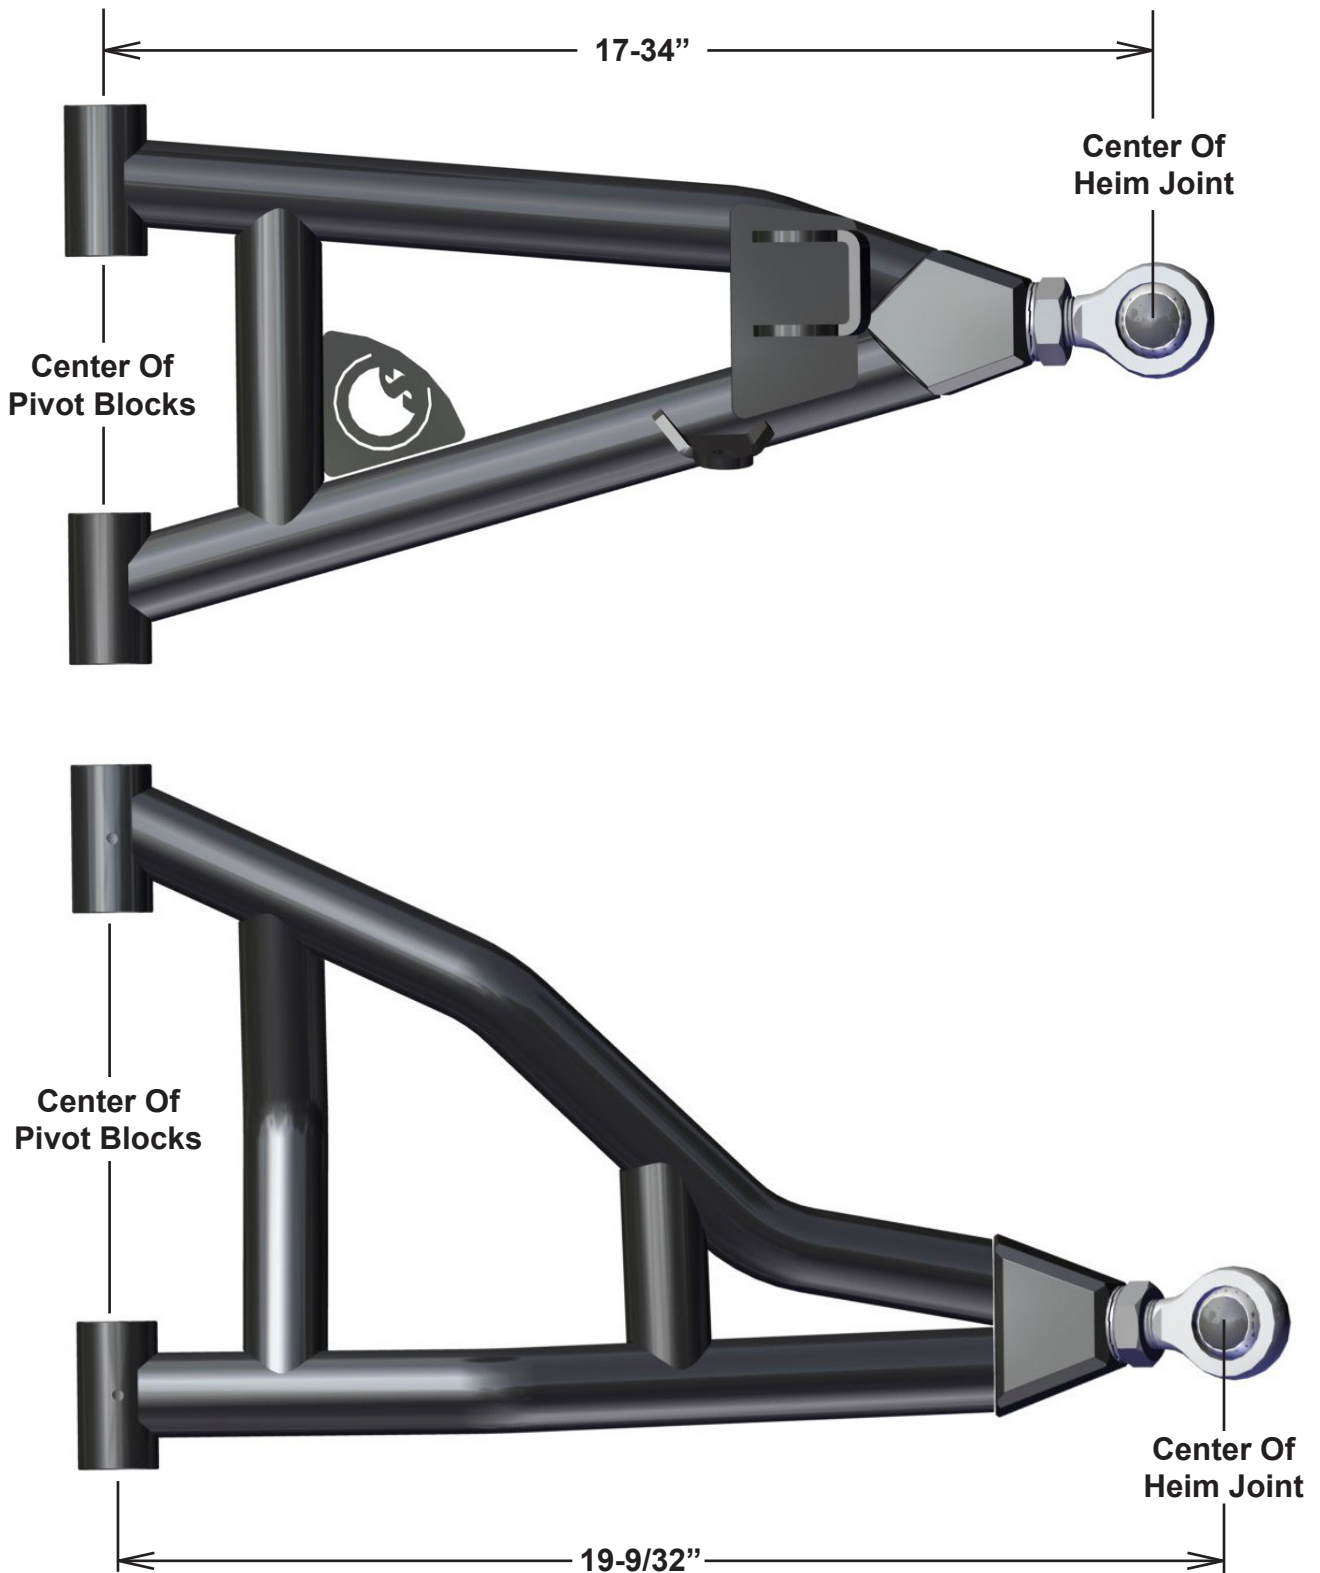

Fig.8
8. Place your New A-Arms onto a flat surface area and verify that your New A-Arms match the dimensions below. A Negative 1° Camber setting is achieved when Heims are set to these dimensions. See **Fig.8** below.